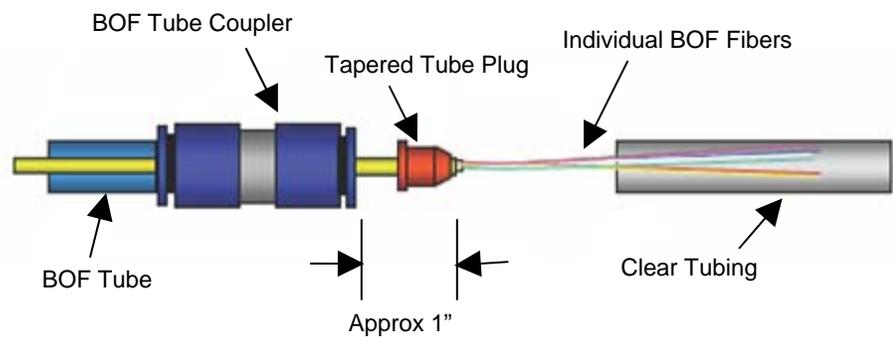

Figure 4
- a. Place the provided tapered tube plug around the exposed bundle jacket approximately 19mm (0.75 inch) from the BOF tube coupler (Figure 4).